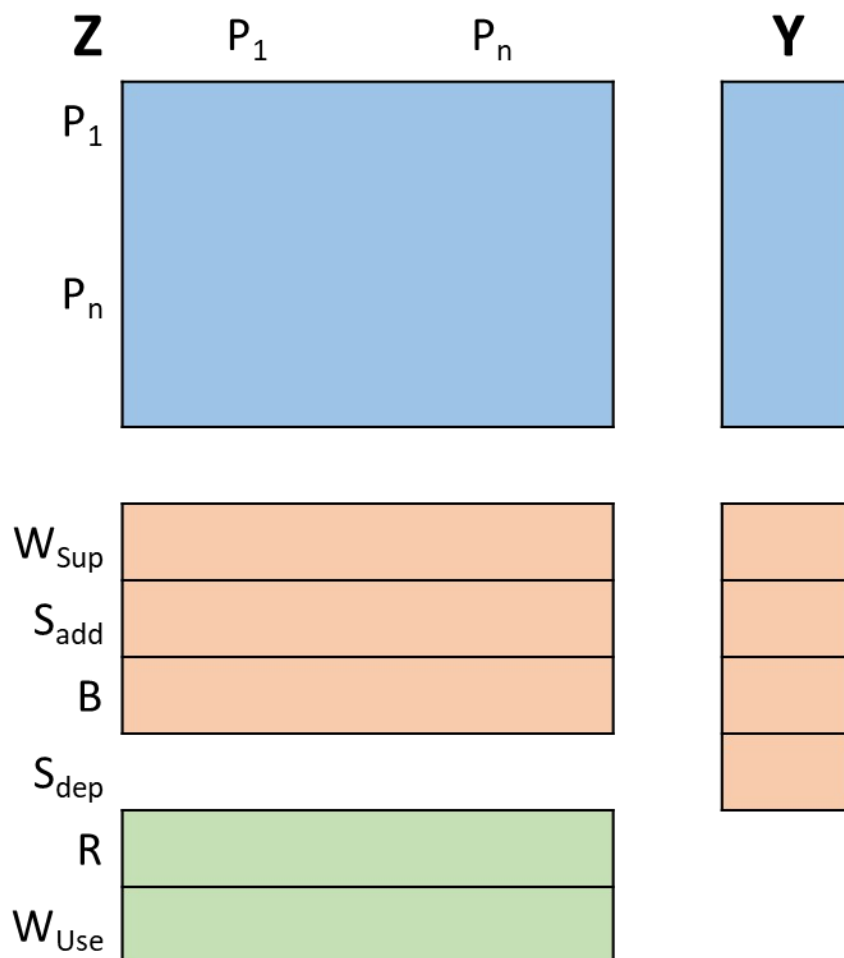

Fig 1. Block diagram Multiregional Hybrid-units Input-Output table EXIOBASE v3.3.
Merciai and Schmidt (2018; 2017) developed a harmonized hybrid-units input-output table where intermediate demand and final demand (Z and Y) can be represented in monetary and physical units (see blue blocks in figure 1). Furthermore, the hybrid IOT contains environment extensions where physical outflows (i.e., waste supply, net stock additions and emissions), and inflows (i.e., resources extraction, and waste recovery) are accounted (see orange block and green block in figure 1, respectively)
3. Following figure 1, we can create a hybrid IOT from the network system: